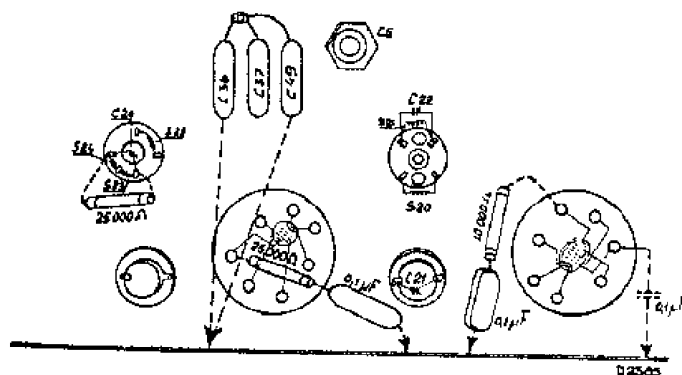

Fig. 3.
4. Place A.V.C. out of action by short circuiting C49 and C36 (see fig. 3).
8. Damp S20 with 10,000 ohms and 0.1 μF in series between the anode of L1 and the chassis (see Fig. 3). Damp S23/24 with 25,000 ohms (see Fig. 3).